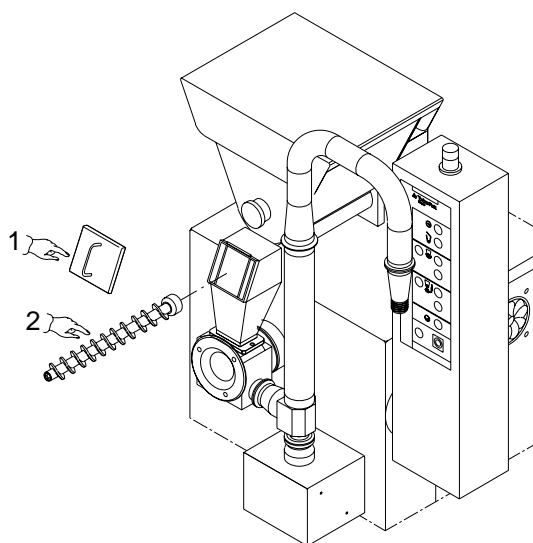
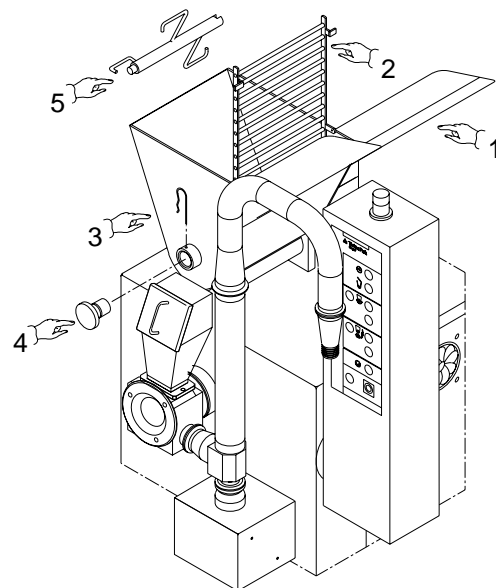

Fig. 7.1
Fig. 7.2
Open the lid (*Part.1, Fig.7.1*) and remove the screw feeder (*Part.2, Fig.7.1*).
Lift the hopper lid (*Part.1, Fig.7.2*), the safety grid (*Part.2, Fig.7.2*), remove the spring (*Part.3, Fig.7.2*), the mixer support (*Part.4, Fig.7.2*) and pull out the mixer (*Part.5, Fig.7.2*).
- at the same time pour the washing solution (**in small doses**) into the main hopper, to wash the agitator (*Part.4, Fig.7.2*) and the screw feeder (*Part.3, Fig.7.1*).